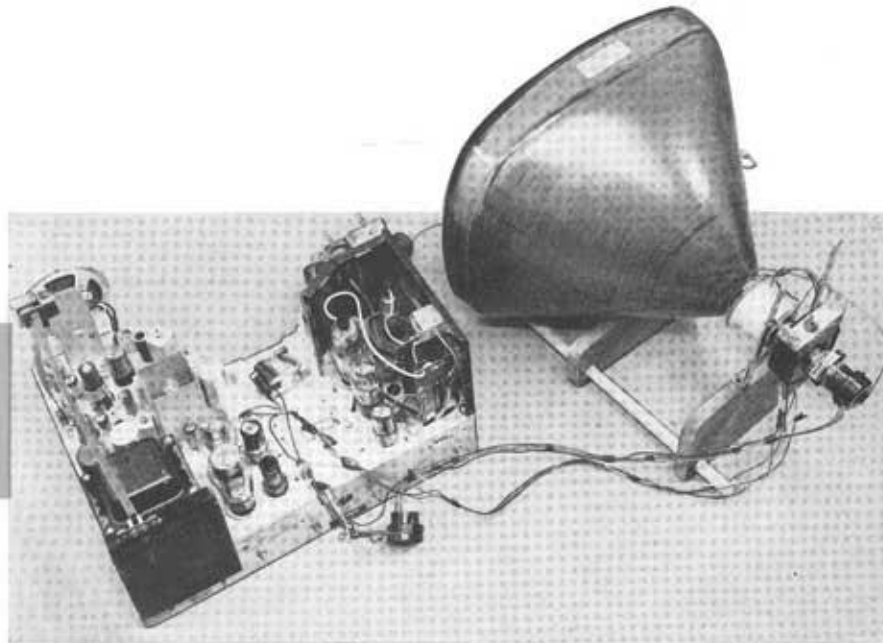

Figure 6. Completed conversion ready for installation in a new cabinet or wall.
17. The picture tube was placed in a Deity Tube Cradle, and the deflection yoke, focus coil and ion trap were placed on the neck of the tube as shown in Figure 6. The Deity Tube Cradle is very useful